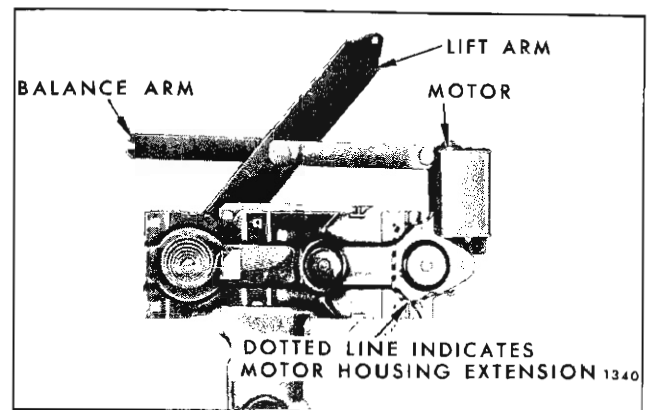

Fig. 1D42—Door Window Regulator and Electric Motor Assembly
1. Remove front door window electric regulator and clamp assembly in a vise. (See Fig. 1D42).
IMPORTANT: DO NOT drill into the motor housing, part of which is indicated by the dotted line illustrated in Figure 1D42. In addition, locate hole a sufficient distance from edge of sector gear to insure proper retention of sector gear to back plate.
4. Remove regulator motor attaching bolts and remove motor from regulator assembly. (See Fig. 1D42).